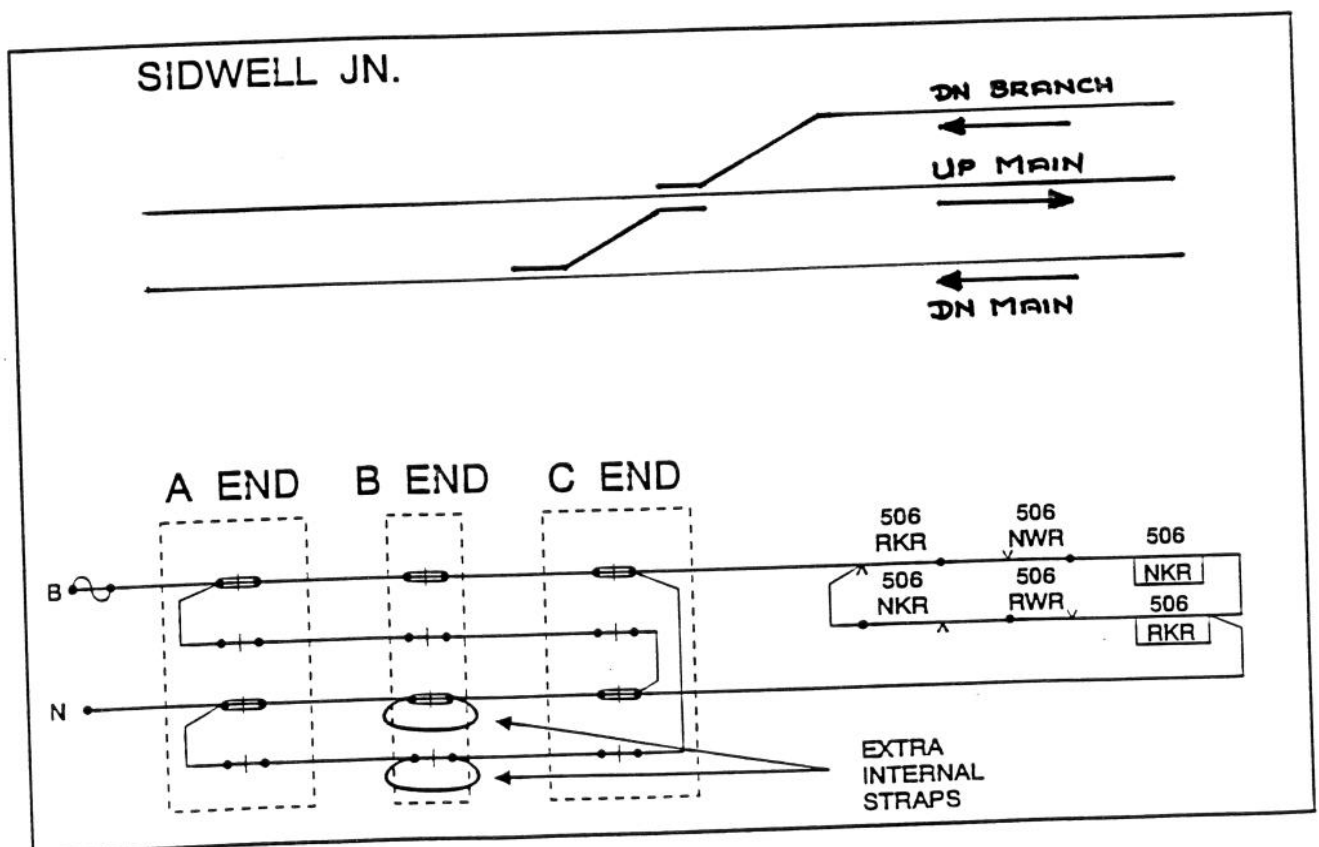

Figure 9. Detection Circuit With Short Circuit Wiring Errors
- 2) What would be the effect of the extra internal straps in Figure 9?